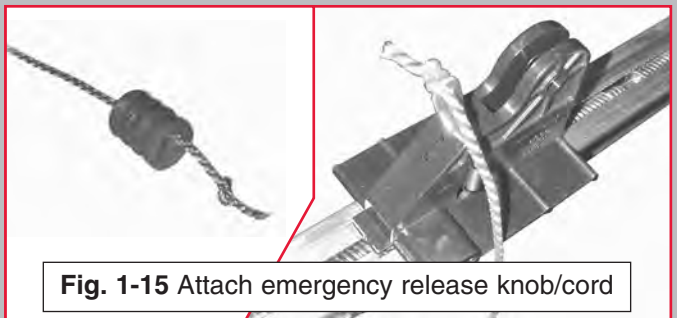

Fig. 1-15 Attach emergency release knob/cord
16. Attach emergency release knob and cord (Fig. 1-15).